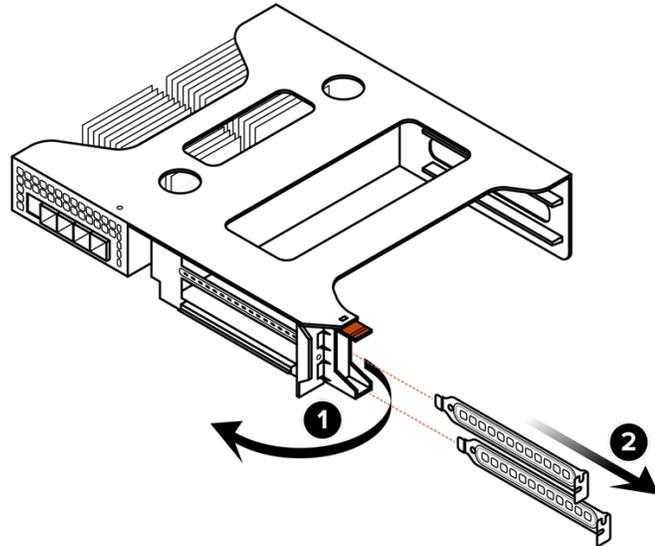
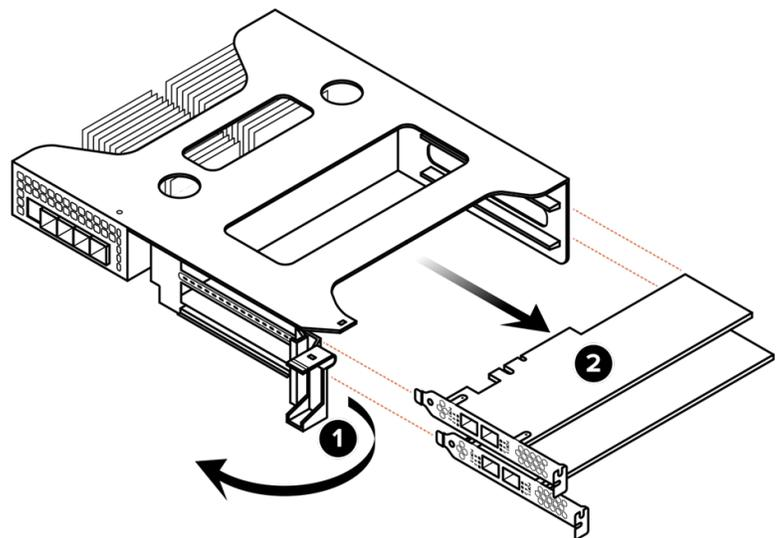

Figure 14-12. Removing Riser 0 Blanks
Figure 14-13. Removing PCIe Cards
2. Remove blanks (Figure 14-12) or PCIe cards (Figure 14-13) from PCIe slots 0 and 1.